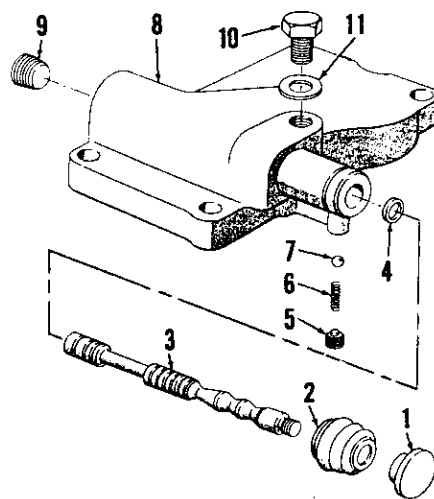

Fig. 424—Exploded view of selector valve assembly available for models 2000, 3000 and 4000. Clamp for boot (2) is not shown.
368. A selector valve is available for model 2000, 3000 and 4000 tractors to provide for operation of single acting remote hydraulic cylinders, either in conjunction with or independently of the 3-point lift cylinder, from the tractor hydraulic system control valve. Refer to Fig. 424 for exploded view of the valve.
Remove the valve plug (5—Fig. 424), detent spring (6) and detent ball (7). Loosen clamp, pull the dust cover (2) from boss on valve body and withdraw the valve spool from bore. Remove "O" ring (4) from groove in valve spool, unscrew the knob (1) and remove dust cover. Remove plug (9) if necessary for cleaning purposes.